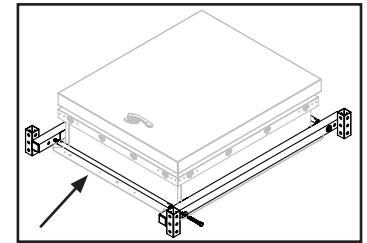

FIG. 2
2. Put one conduit tube with threaded nut ends on gate side and the other conduit tube on the opposite side. Select the hole locations in the compression side mount assembly that best fit around the roof hatch. Loosely attach the conduit tubes and compression mount assemblies together with 1/2"- 13 x 4" hex bolts on each side. (Fig. 2 & 3)